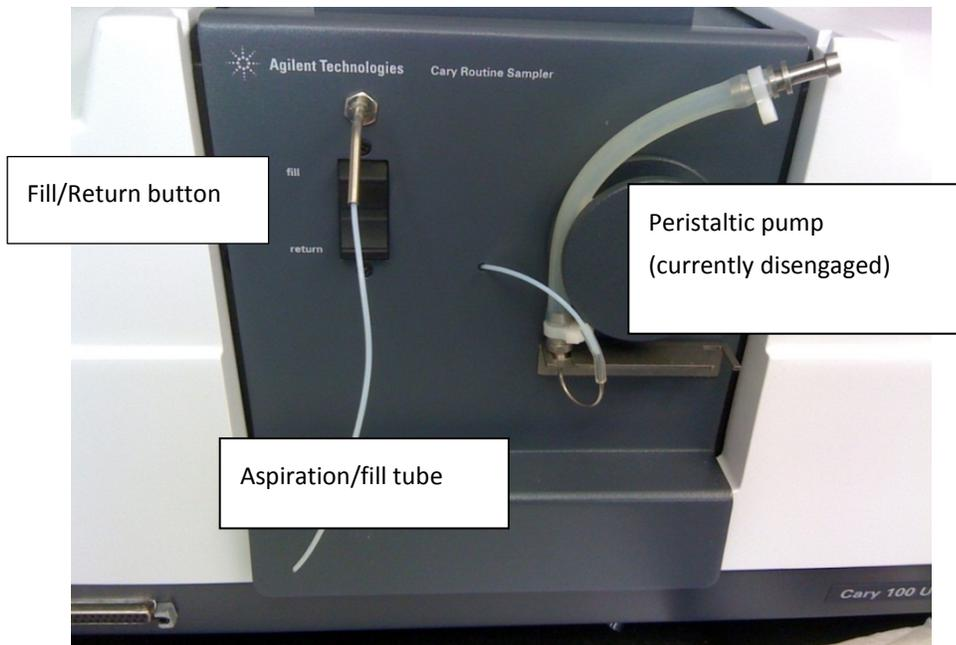

Figure 4. Peristaltic Pump.
5. Clean the 'fill' tubing with a Kimwipe and aspirate DI water a couple of times, without returning. This is done by depressing the **fill** button on the front of the Cary unit. (**Figure 4**)